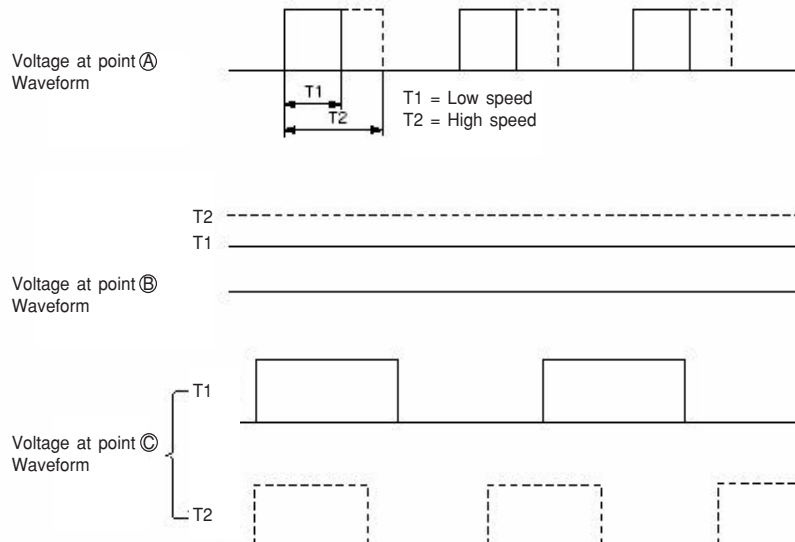

Fig. 7-2
- For the point ①, 15.7 kHz PWM pulse will be output from the pin (24) on the micro computer as shown in Fig. 7-2. The pulse range will vary with different command speed.